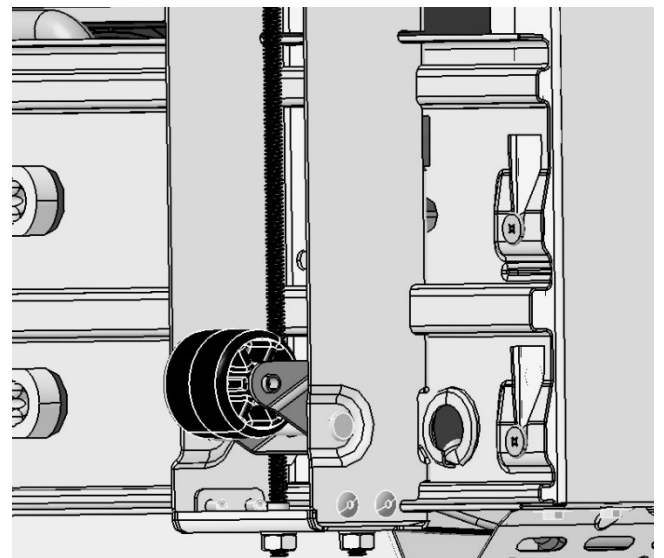

Figure 3
3. a. Fit the first Leveler Assembly onto a refrigerator/freezer as shown in Figure 3: